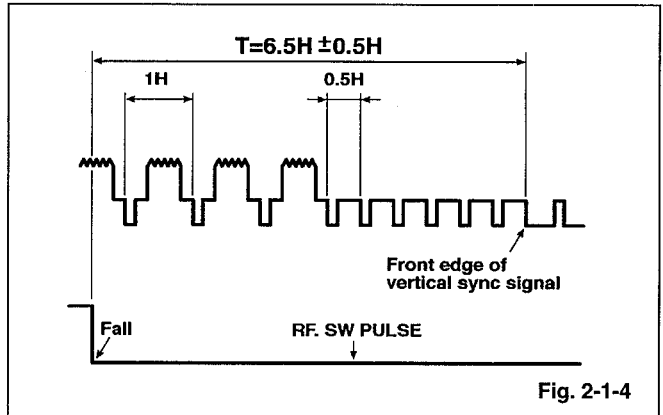

Fig. 2-1-4
3. Observe the video output signal by the oscilloscope, triggered by the fall down point of RF SW PULSE (TP183), and confirm that a front edge of V-SYNC is delayed for 6.5 H ± 0.5 H from the fall down point of RF SW PULSE. (Fig. 2-1-4)